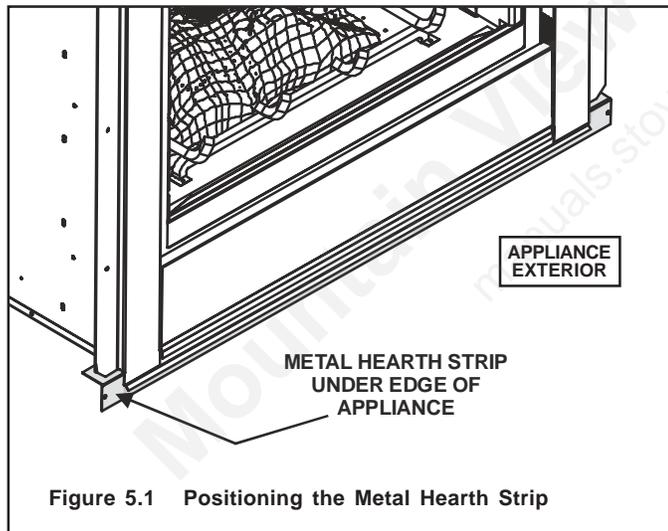

Figure 5.1 Positioning the Metal Hearth Strip
- Place the metal strip onto the structure where the outer edge of the appliance will sit (see Figure 5.1).